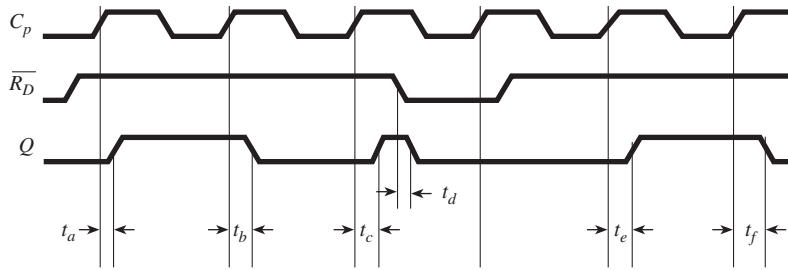

Figure P4
4. Repeat Problem 3 for the waveforms shown in Figure P4. Use specifications for a 74109 in the toggle mode ($J = 1, \overline{K} = 0$).